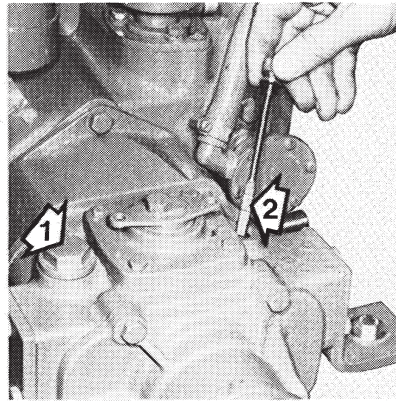

Fig. 11. Checking reverse gear oil level
**The MS reverse and reduction gear has a separate oil compartment. Check the oil level daily before starting for the first time** with the help of the dipstick which is located on the starboard side of the reverse gear. The oil level should be between the max.-min. marks on the dipstick (which must not be screwed down when measuring the oil level). When necessary, top up with new oil (see 1, Fig. 11). Concerning the oil quality and viscosity, see point 4.